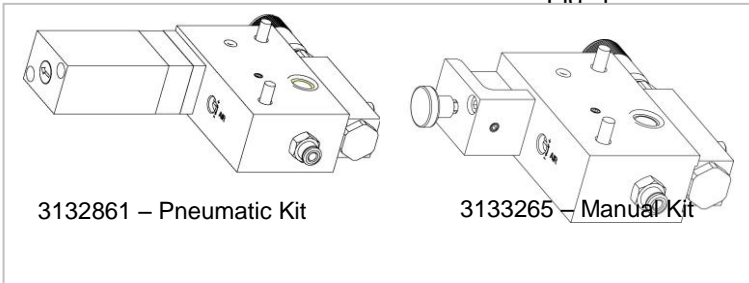

Fig. 2
3. Connect the new base (Part n. 3132861 ore Part N. 3133265) tightening the two securing screws supplied (cod. 14101), paying particular attention to the alignment and positioning of the seals (FIGURE 2). Note: every kit is independently controlled but air is connected to the first base.